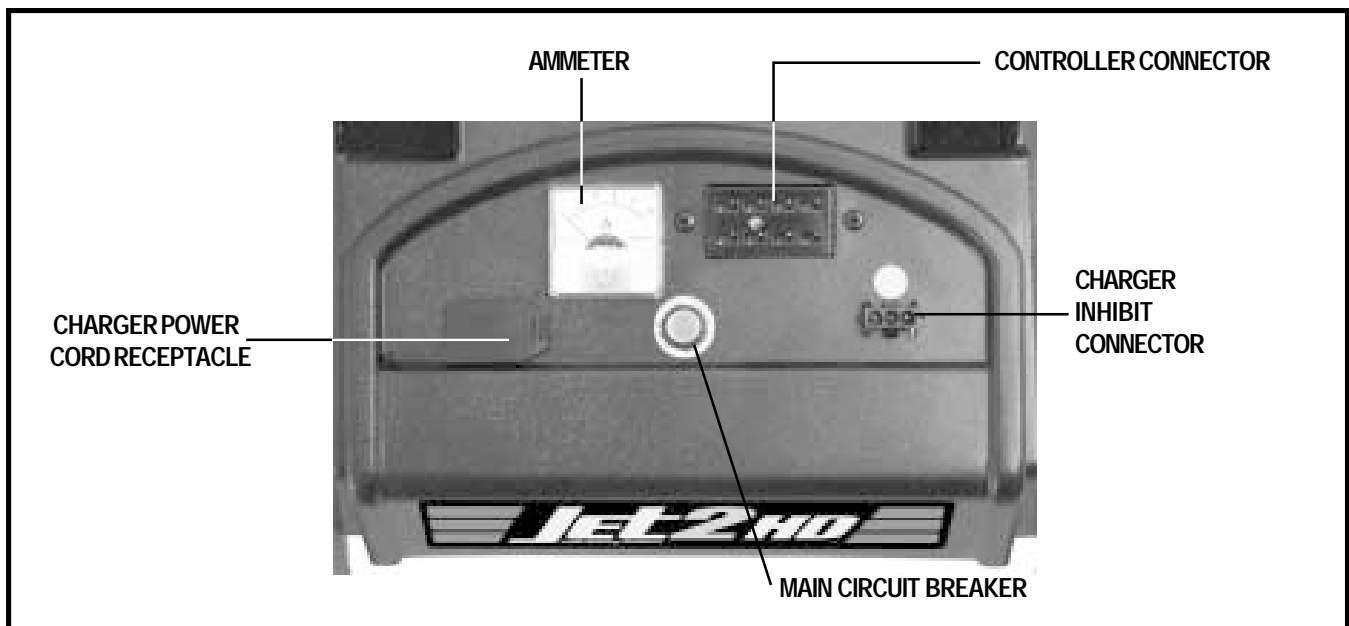

Figure 6. Electronics Tray
3. Plug the controller and charger inhibit connector into the electronics tray. See figure 6.